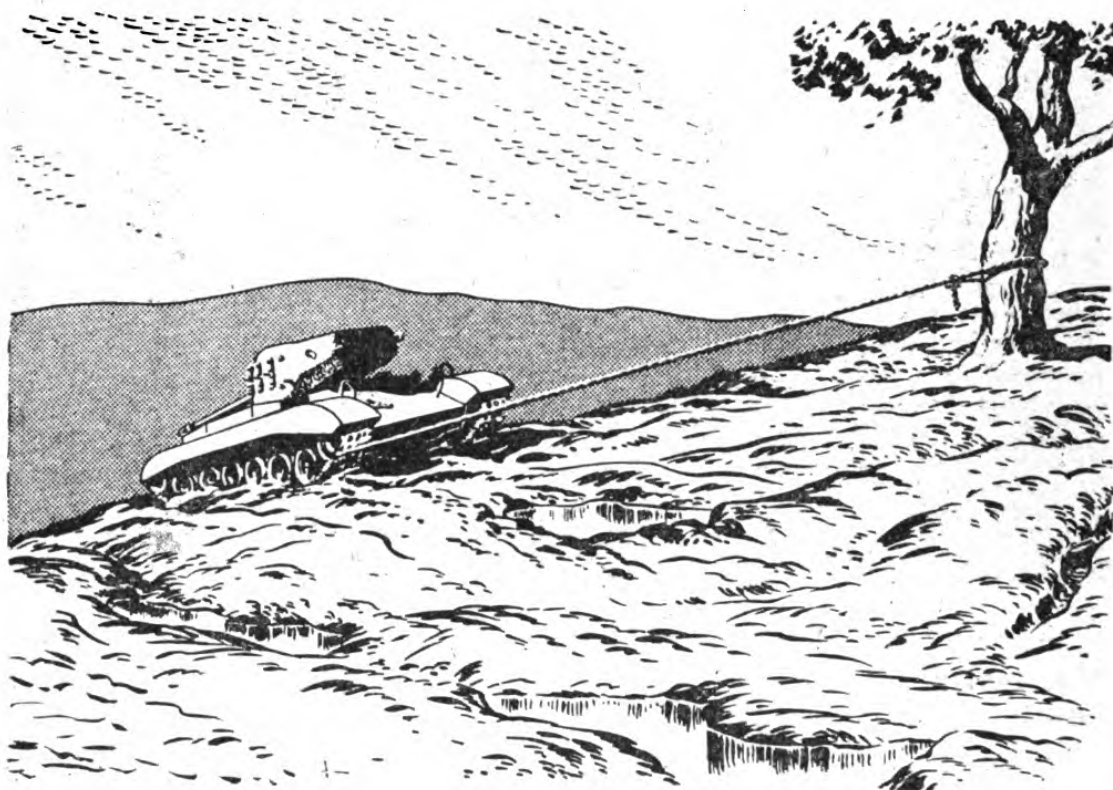

Figure 37. Move the vehicle up a slippery hill by anchoring one track with a cable and holding back on the opposite steering lever.
35. SLIPPERY HILL. a. To move a full-track vehicle up a slippery hill or incline (fig. 37)–